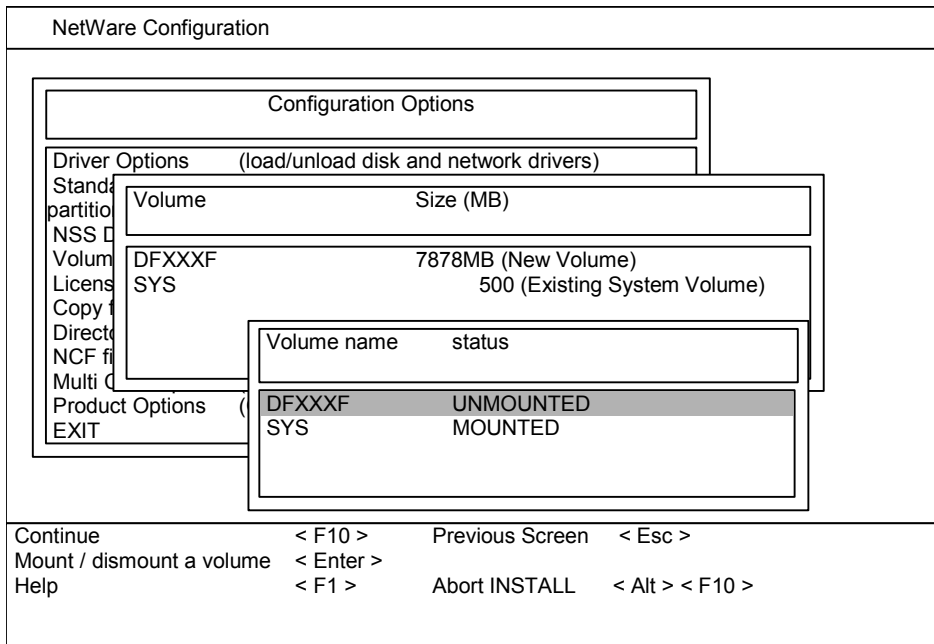

Figure 3.18 Selecting and Mounting the Volume
- a) If you chose to mount volumes selectively (see Figure 3.18), select the desired volume, press **Enter** to mount the volume, and then confirm that the volume's status changed to **MOUNTED**. Repeat this step for each new volume to confirm that all new volumes can be mounted successfully.